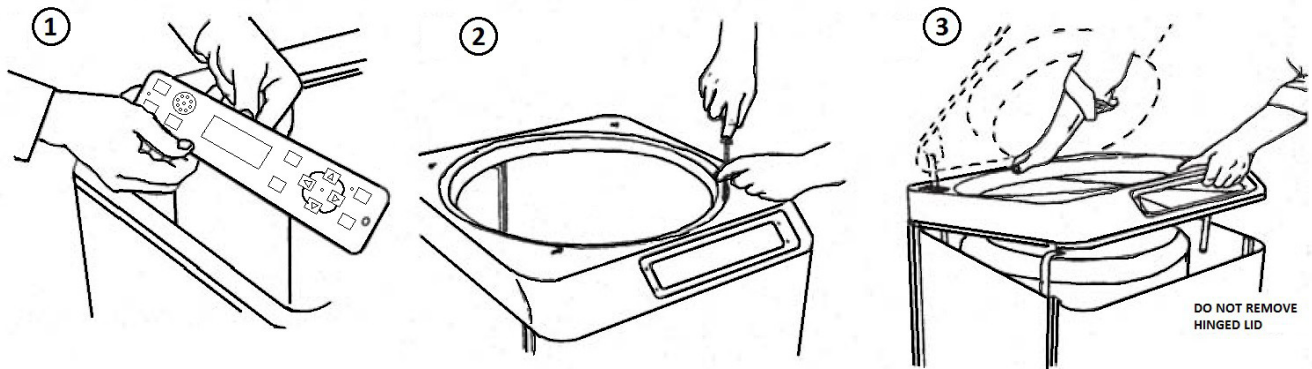

Figure 16.0 Controller Removal
valve before you reattach the cabinet top. Reattach the cabinet top with the (4) four screws that were removed (See Item 2 of Figure 16.0) out to remove the cabinet top. Carefully lower the display into the cabinet. Attach the display to the cabinet top with the (2) two supplied screws. Be sure that all of the necessary installation procedures have been completed before you start to fill the refrigerator. To start filling, refer to Filling the Refrigerator (Initial Fill) section of this manual.